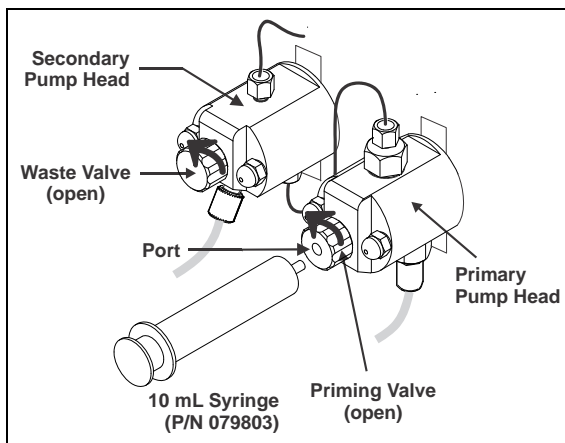

Figure 5-33. Priming the Pump Heads with IPA
1. Connect a 10 mL syringe (P/N 079803) filled with isopropyl alcohol (IPA) to the port in the primary pump head (see Figure 5-33).
2. Open the waste valve on the secondary pump head (see Figure 5-33) by turning the knob one-quarter to one-half turn counterclockwise.